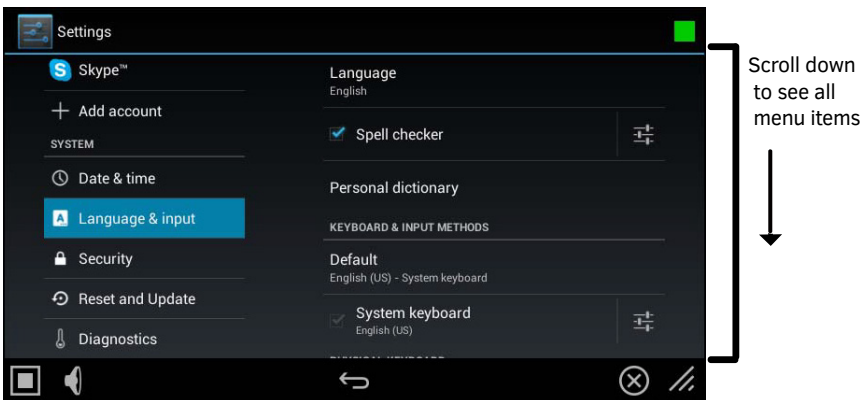

**FIG. 83** Choose Date Format window
Choose Date Format:	Use the Choose Date Format window (FIG. 83) to select the desired date format.
1. Press **Choose Date Format** to open the *Choose date format* window (FIG. 83).